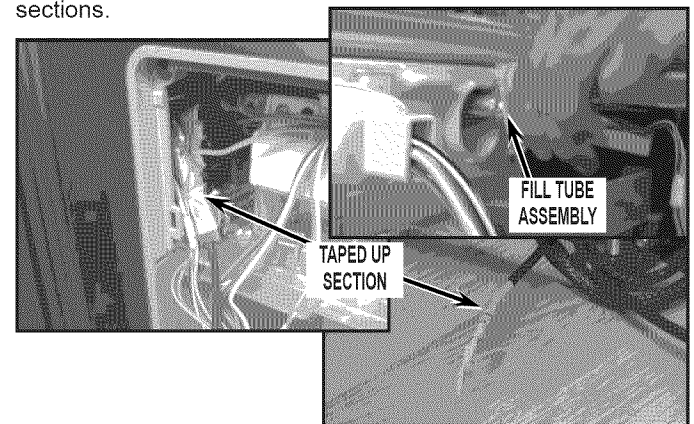

FIGURE 10
- Pull out the old fill tube and wire harnesses making sure to help feed the taped up sections up through the door conduit from behind the user interface and at the bottom of the door. See *Figure 10*.